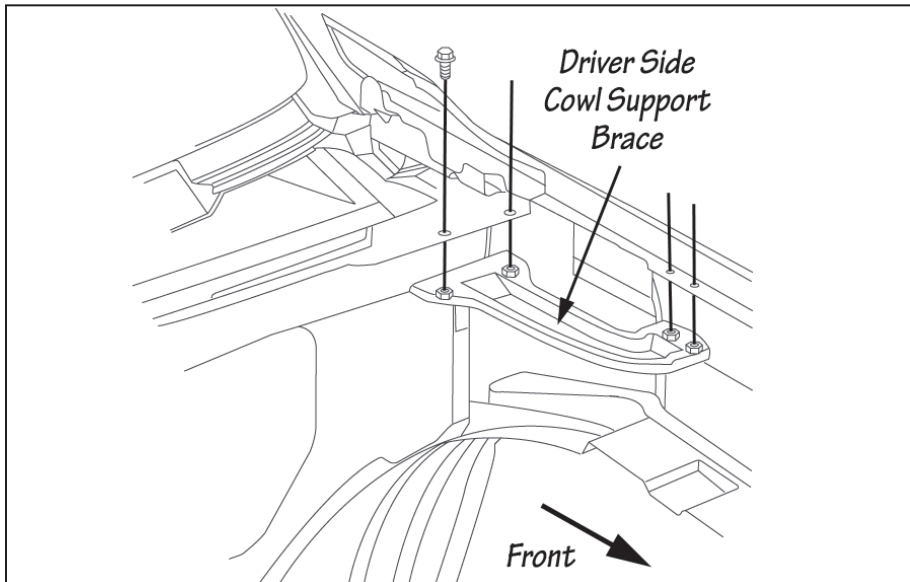

Figure 4
8. Remove the fuse box assembly cover by expanding the fuse box out towards the engine side and lifting up, exposing the fuse electrical center. See **Figure 4**.